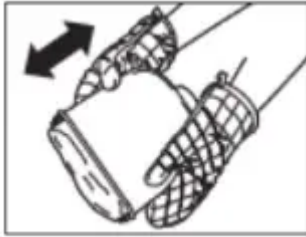

Figure 5
18. Using oven mitts, turn the bread pan upside down (with the bread pan handle folded down) onto a wire cooling rack or clean cooking surface and gently shake until bread falls out. Use a non-stick spatula to gently loosen the sides of the bread from the bread pan (Fig 5). CAUTION: The pan becomes very hot. Be very careful when handling the pan, and always use protective gloves. NOTE: Never use metal utensils to remove the bread from the pan, in order to avoid damaging the non-stick coating. TIP: If kneading